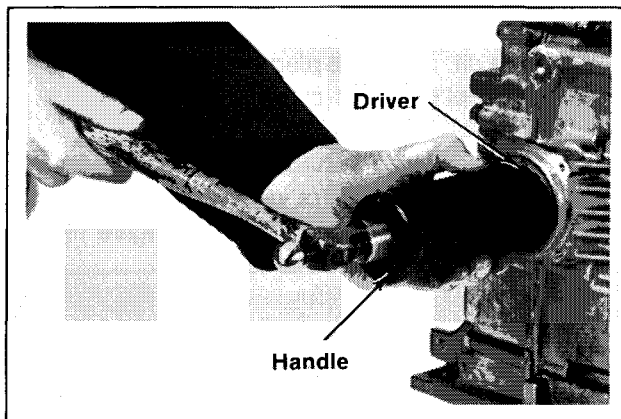

Figure 11-24. Installing Oil Seal Using Driver.
2. Using the #11795 handle and appropriate seal driver, install the front oil seal to a depth of $1/32''$ ($+3/64''$; $-1/64''$). Refer to Figure 11-24.
6. Using the #11795 handle and appropriate seal driver, install the rear oil seal to a depth of **5/32" (+ 3/64"; -1/64")**. Refer to Figure 11-24.